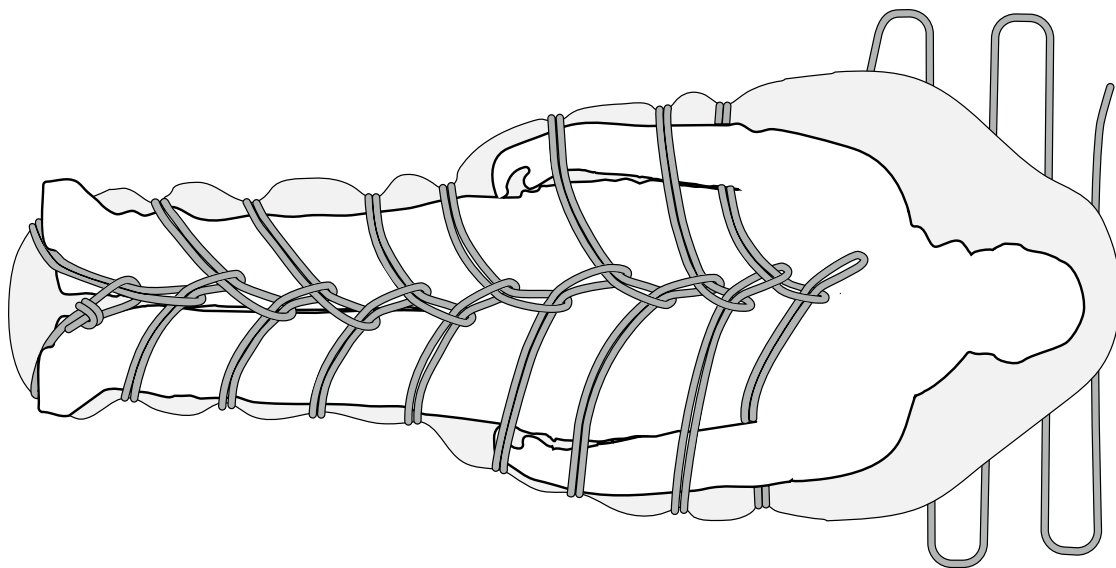

Figure 8-9. Securing the Casualty to the Rope.
4. Cross to the opposite side of the casualty and pull up the second bight through the loop formed by the bight that was pulled through the figure-eight loop. Continue the process until getting to the casualty's armpits, as shown in Figure 8-9.